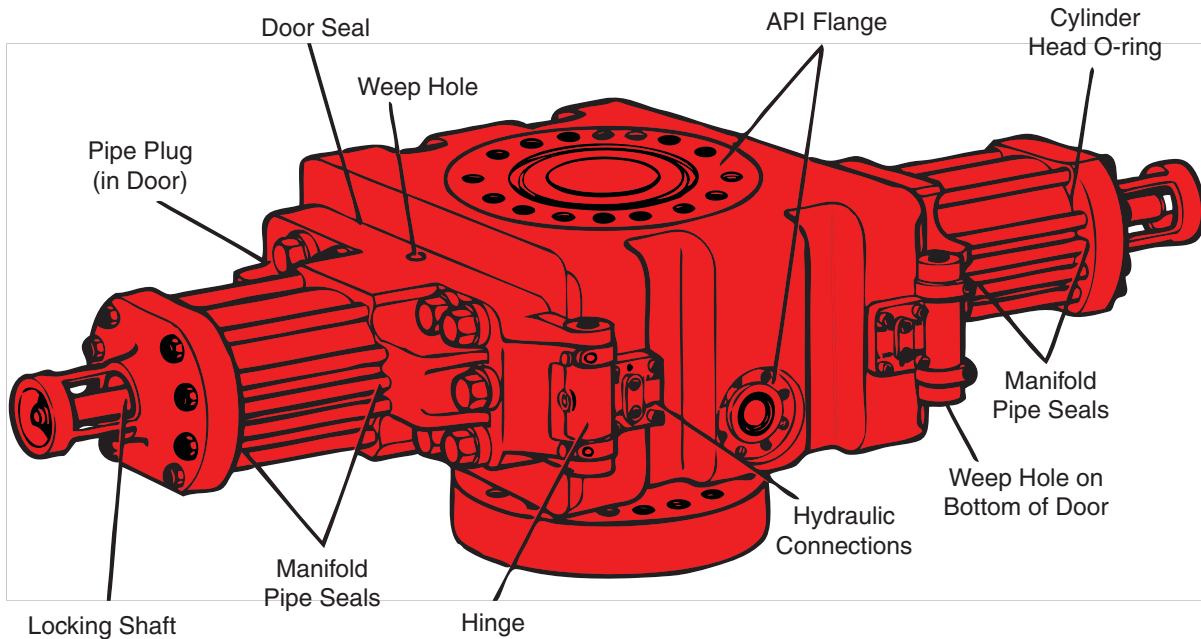

Figure 4-1. Possible Leak Areas
2. Check the locking shaft seal areas, cylinder head O-ring areas, manifold pipe seals, door seal areas, weep holes, hinges, hydraulic connections, and the socket head pipe plug for possible leakage of hydraulic fluids (see Figure 4-1 on page 4-3).
3. Check API flange areas for possible leakage of well fluid and/or hydraulic fluid (see Figure 4-1).
3. While running the field wellbore pressure test, look for external hydraulic leaks (see Figure 4-1).
6. Check for leaks on pressure gauge 1, the BOP exterior at the API connections, the door seals, the ram shaft weep holes, and at the rams if they are visible (see Figure 4-1 on page 4-3).